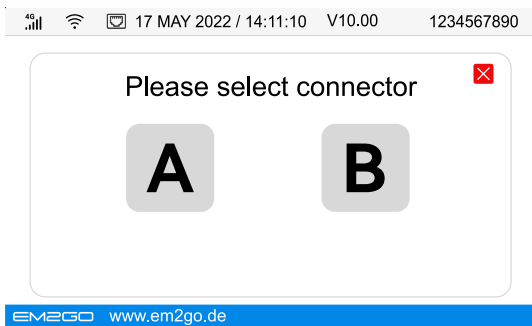

Fig. 6-2 Selecting the charging point
1. To use local load management, connect up to 16 charging stations by cable via Ethernet to a network switch or router (see **section 5.1.4** and **Fig. 6-2**).